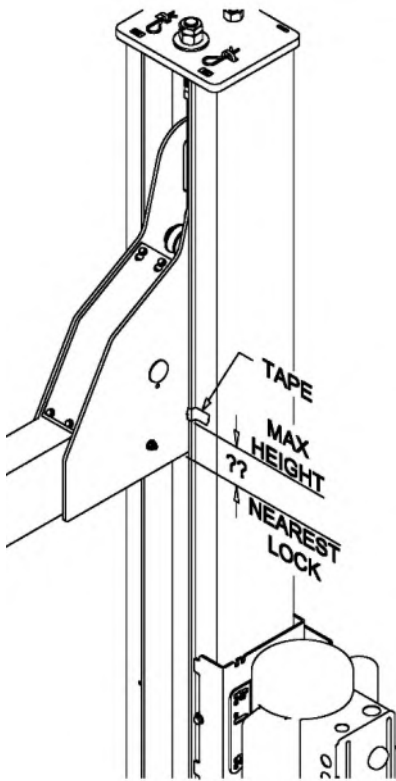

Fig 29 – Lock Clearance Measurement
- 59) Raise lift to the Max Height and place a piece of tape on the power column lined up with the bottom of the crossbeam. Lower the lift into the nearest lock position and measure from the bottom of the crossbeam to the tape, **Fig 29**.